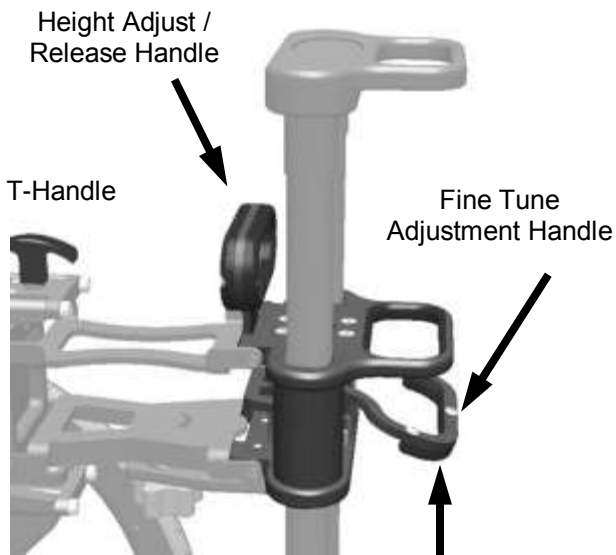

Fig. 9
- Using the Height Adjust / Release Handle or the Fine Adjustment Handle (fig. 9), adjust the seat height to about 1" higher than the inside leg measurement.
- To raise the seat using the Fine Adjustment, place your hand in the handle and squeeze the Lower Fine Tune handle (fig. 9). Each time you fully activate the Fine Tune handle the seat will rise up approximately 12 mm.
- To lower the seat, lift up on the T-handle to release any weight from the seat assembly and press slightly downward on the Height Adjust/Release Handle (fig. 9). Only minimal pressure is needed to lower the seat down the mast. Do not push too hard. Releasing the Height Adjust/Release Handle will stop the seat from lowering.